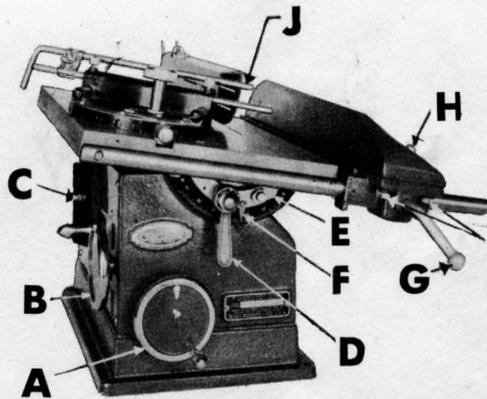

FIGURE 1
The saw blade is raised and lowered by means of the hand wheel (A) in Fig. 1. The table is tilted by turning hand wheel (B). The adjustable depth of cut scale (C) indicates the amount of cut for both regular and dado blades. The wrench (D) can be used to lock the table at any angle. The stop link (E) can be adjusted to hold the table at 45°. The amount of tilt is shown by the adjustable pointer (F).